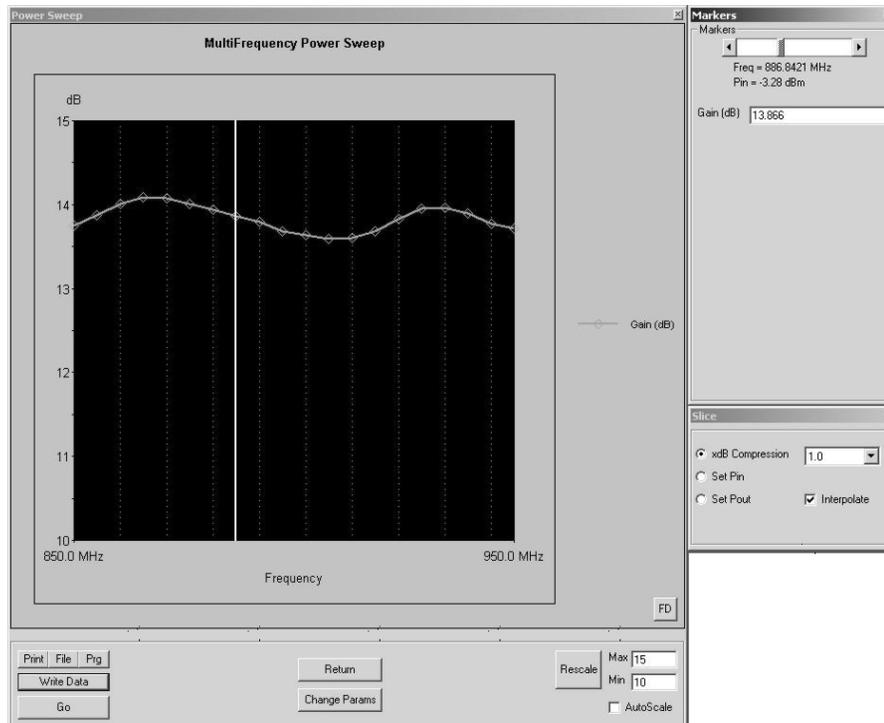

Figure 5-9. Single Frequency Power Sweep Test, Multi-frequency 1 dB Compression Points
- **Select Start Test:** Observe that the test screen (Figure 5-9) appears.